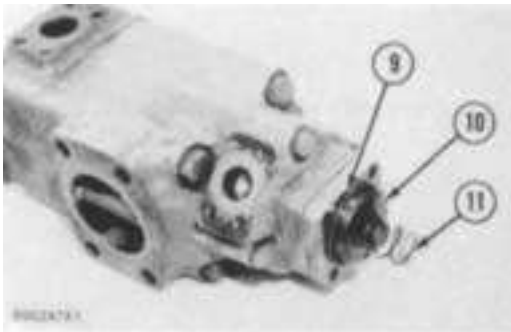

FIGURE 7-12
- Remove the spring (11, Figure 7-12), plate (10), and O-ring seal (9).